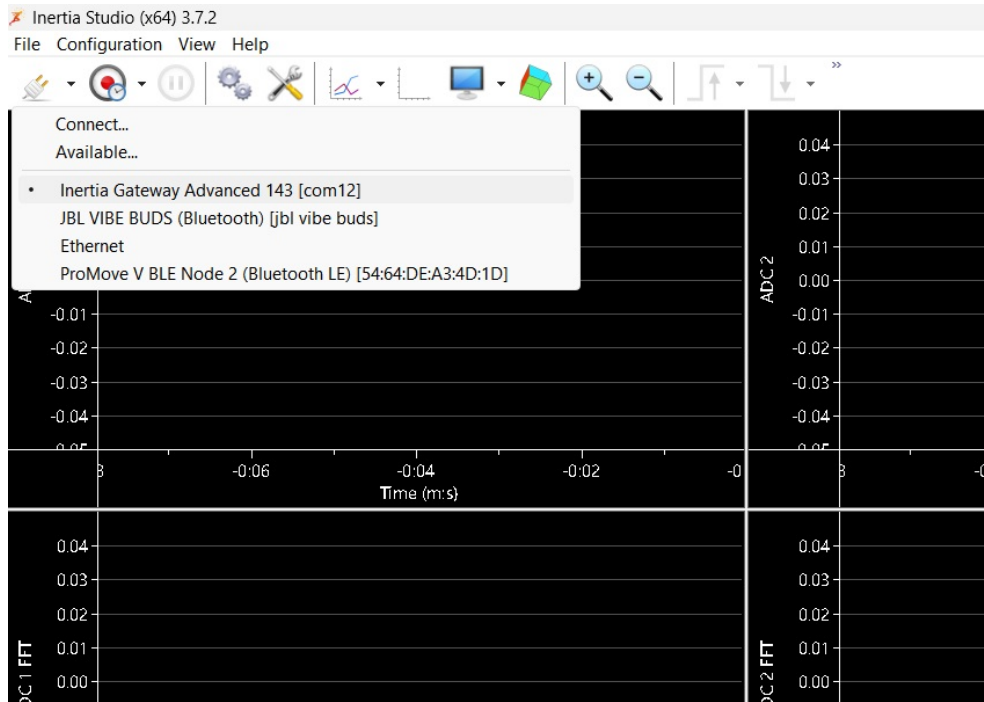

Figure 69: Connect the gateway in Inertia Studio
3. Connect the gateway in Inertia Studio (Figure 69) by pressing on the arrow next to the first *Connect* pictogram button in the toolbar, which opens the drop-down menu with a list with the names of the available Inertia devices. Select the **Inertia Gateway** device and press on the *Connect* pictogram (for details, see Section 3.2.1).